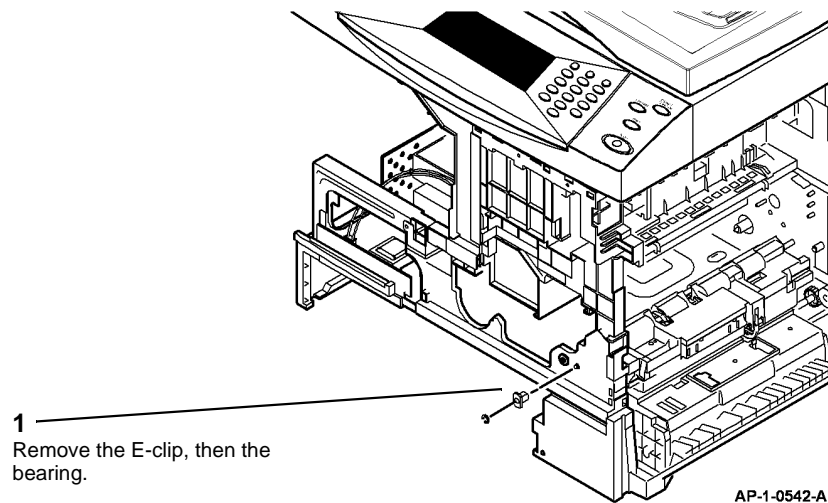

Figure 3 Preparation
11. Prepare the front of the registration roll, Figure 3.